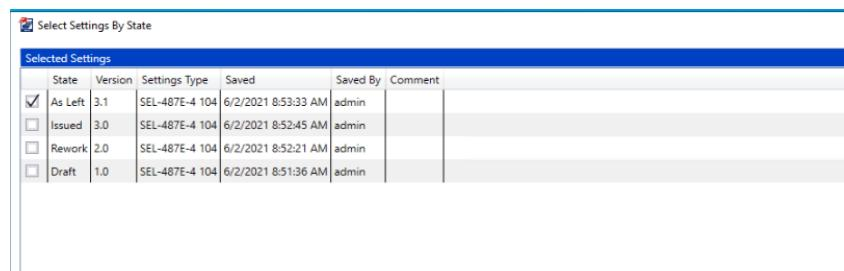

Figure 4.27 Comparing Devices
This option compares saved settings in **Device Manager** to the settings on the device. **Device Manager** connects to and reads from the device when this option is selected. When comparing by device settings, you can choose the **Latest** settings in the workspace of the devices or any of the version history states, as shown in *Figure 4.27*.
- **Compare to Device:** This option compares saved settings in **Device Manager** to the settings on the device. **Device Manager** connects to and reads from the device when this option is selected. When comparing to device settings, you can choose the **Latest** settings in the workspace of the devices or any of the version history states, as seen in *Figure 4.27*.